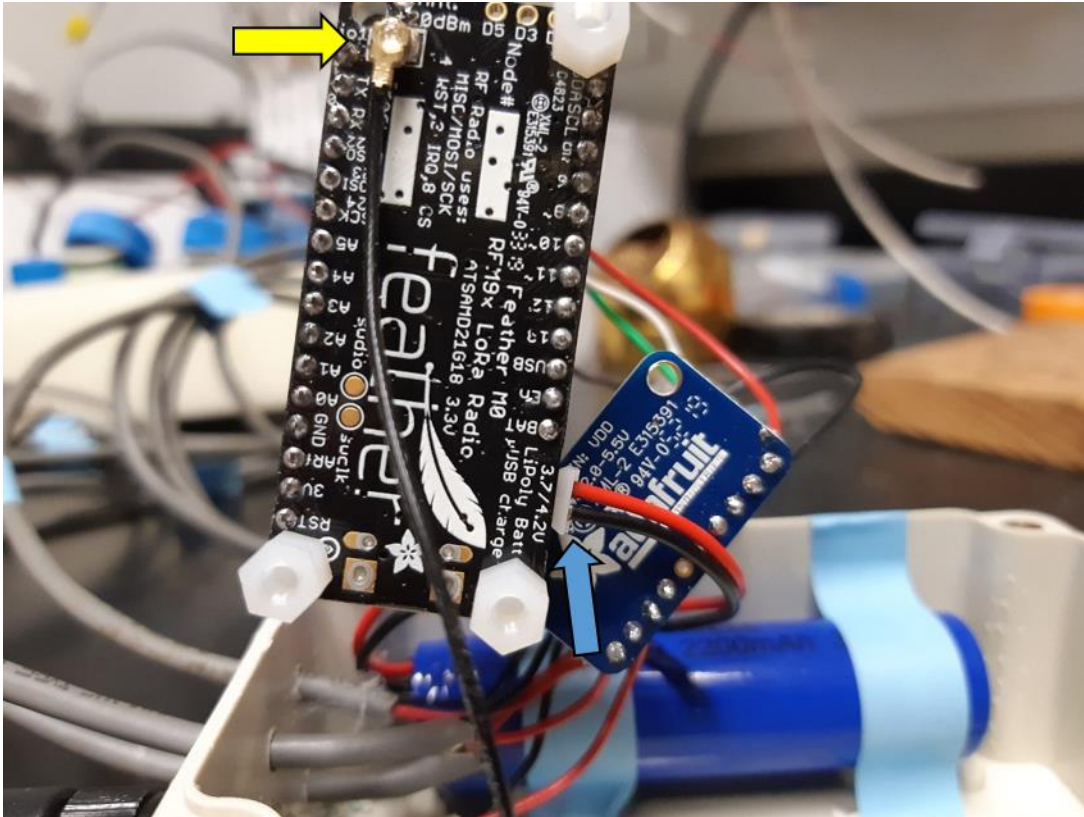

Fig. S1. Bottom view of the LoRa-Feather. The yellow arrow marks the uFL SMT antenna connector (step 1.1.2).
1.1.2. Solder the uFL SMT antenna connector the LoRa-Feather (**Fig. S1**, yellow arrow), and then connect the antenna cable to it (for more detailed instructions, see <https://learn.adafruit.com/adafruit-feather-m0-radio-with-lora-radio-module/antenna-options>).
1.1.16. Check that all the soldered connections are good and with shrinks, and then connect the 2200 mAh to the LoRa-Feather (**Fig. S1**, blue arrow).